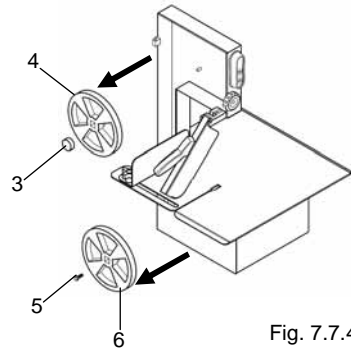

Fig. 7.7.4
- Slacken screw “3” by turning it anticlockwise, remove the washer which secures the pulley in position “4”, using both hands grip the pulley and pull towards yourself as illustrated in fig. 7.7.4 and clean with a sponge soaked in a neutral pH 7 detergent.
- Slacken screw fixture 5 by turning it anticlockwise, with both hands grip pulley “6” and pull it towards yourself as illustrated in fig. 7.7.4 and clean with a sponge soaked with a pH 7 neutral detergent.